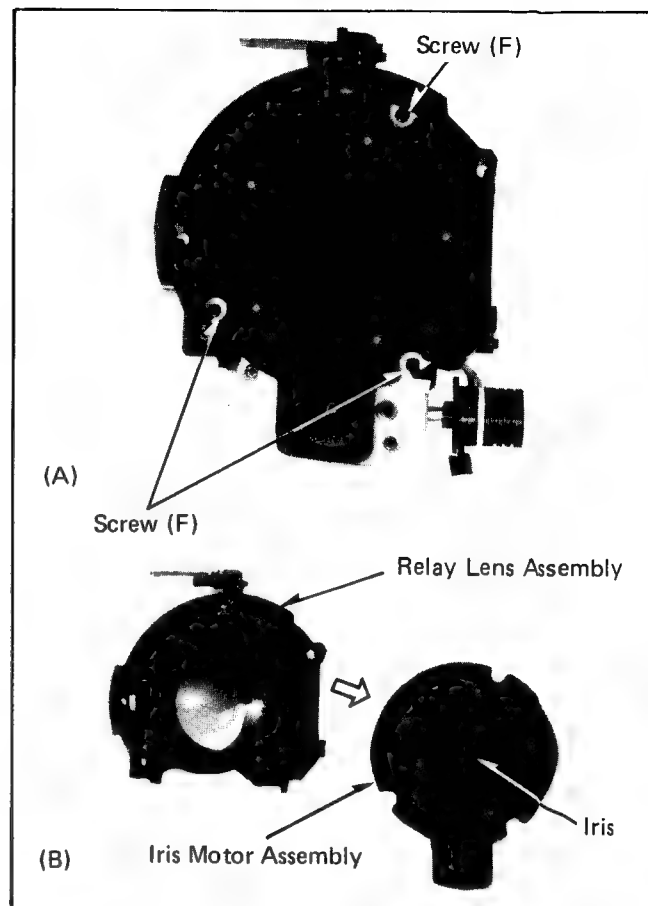

Fig. 22.
7-8. Unscrew 3 screws (F) and remove the iris motor assembly (see Fig. 22-A/B).